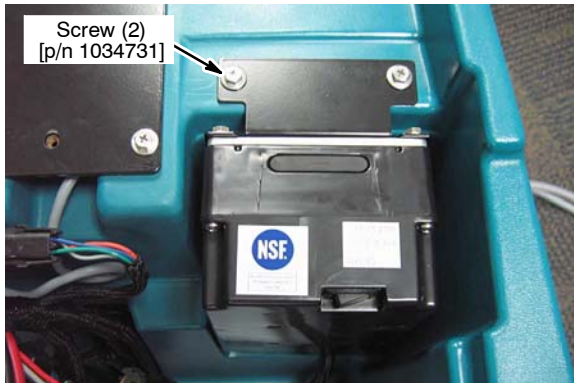

Fig. 32
5. Using two m6x1.00x16 sems screws [p/n 1034731], mount the *ec-H2O* module to the machine as shown (Figure 32).